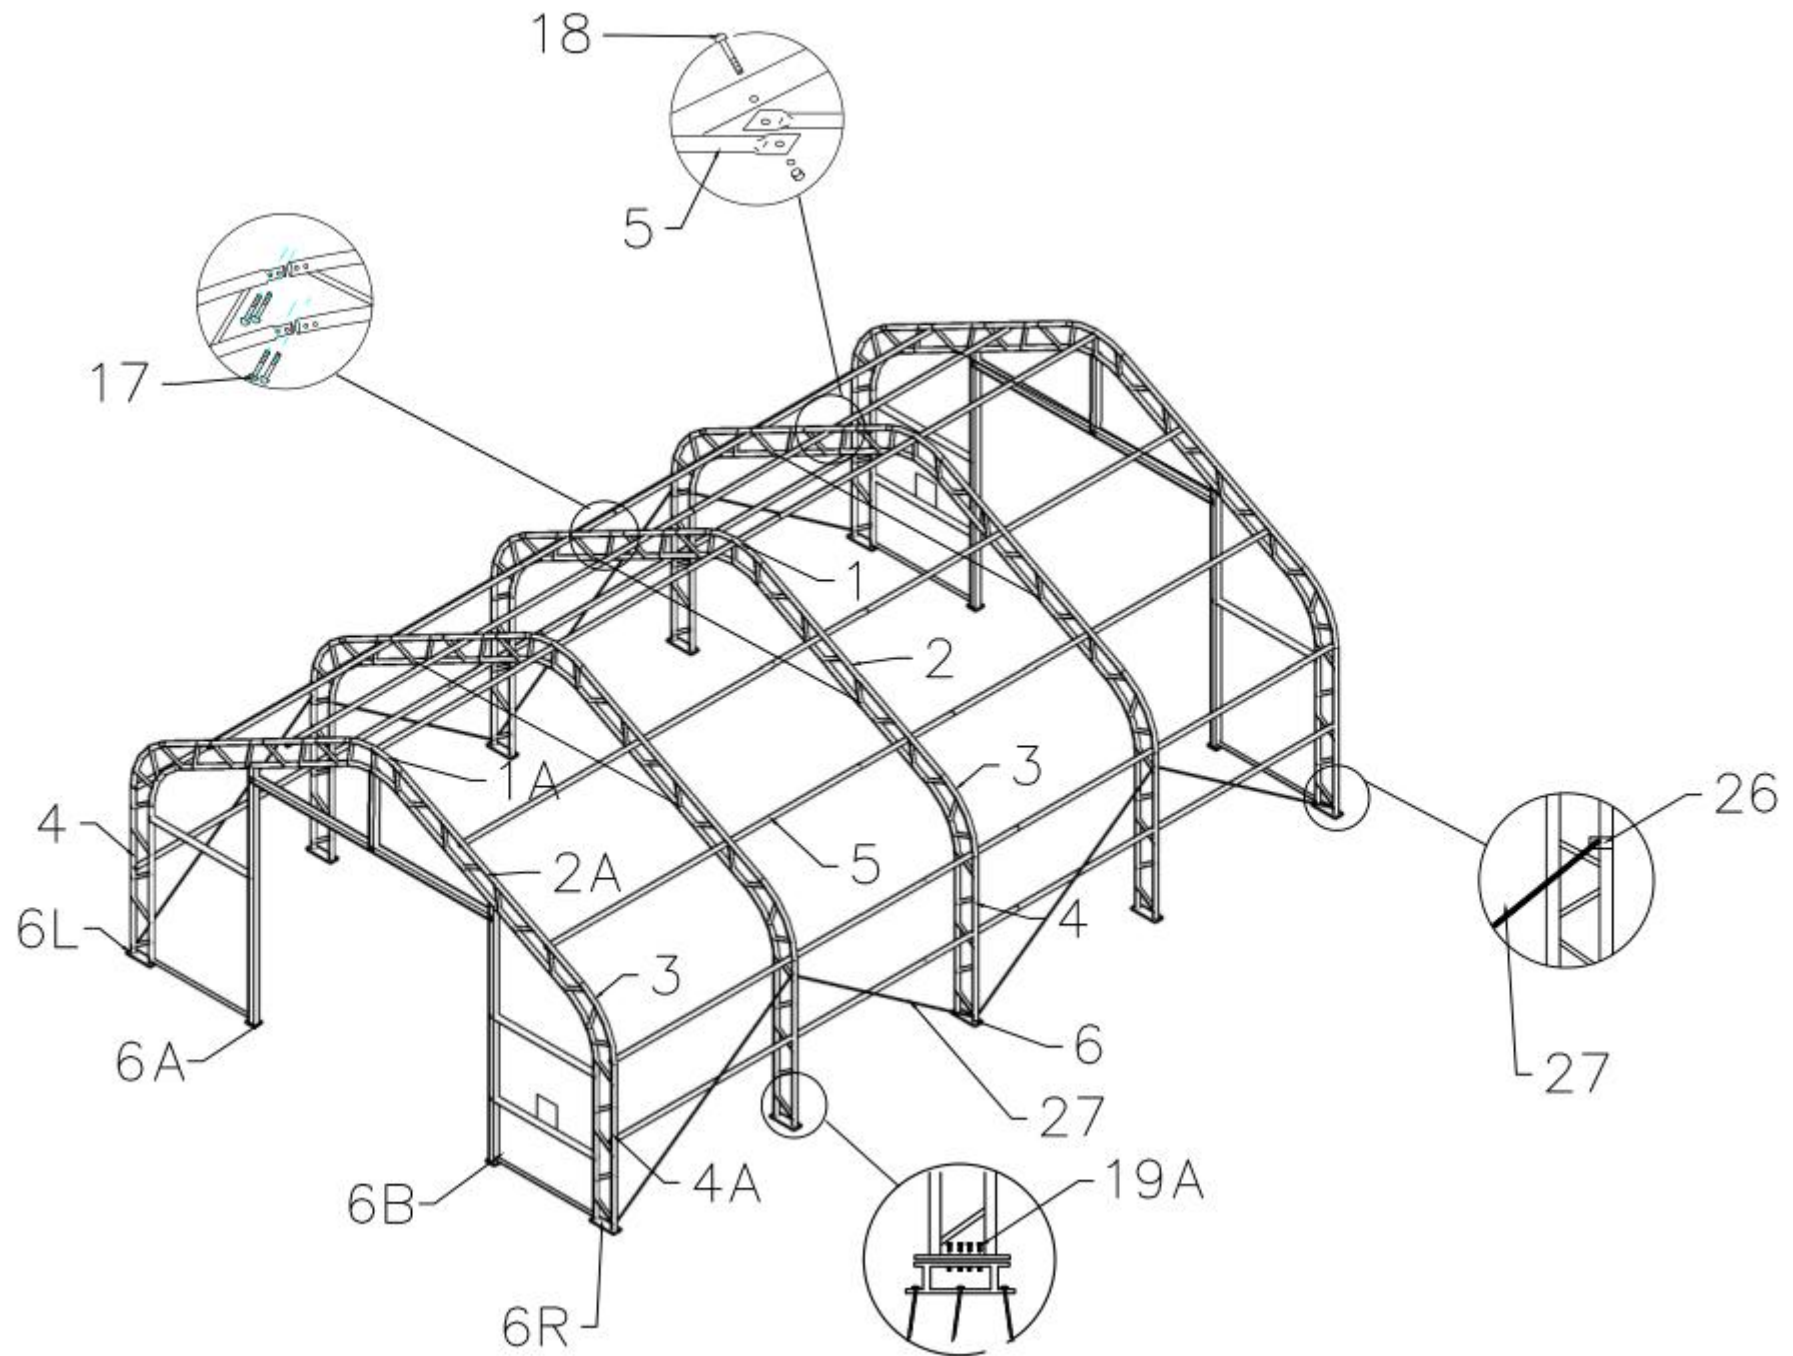
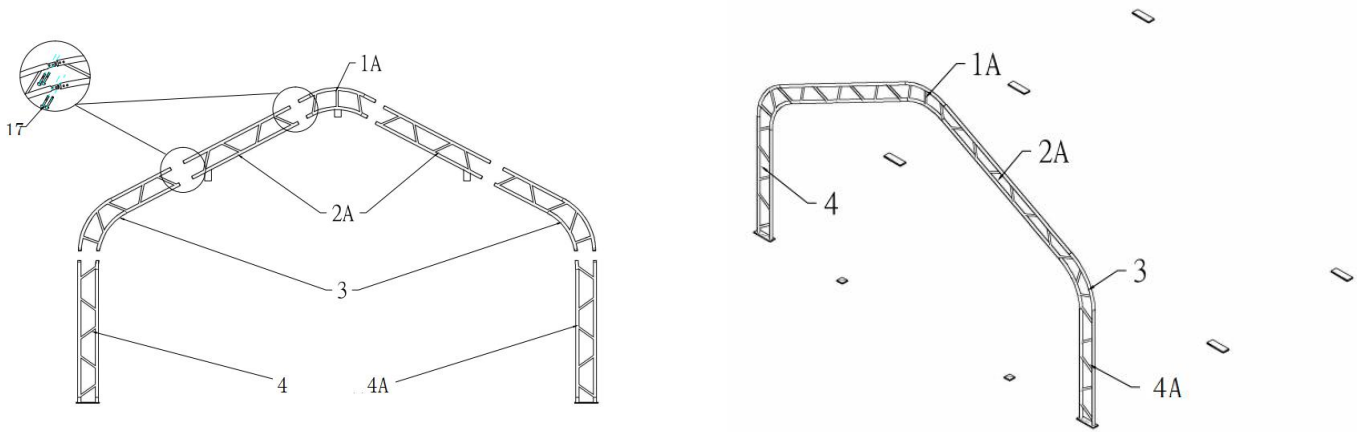
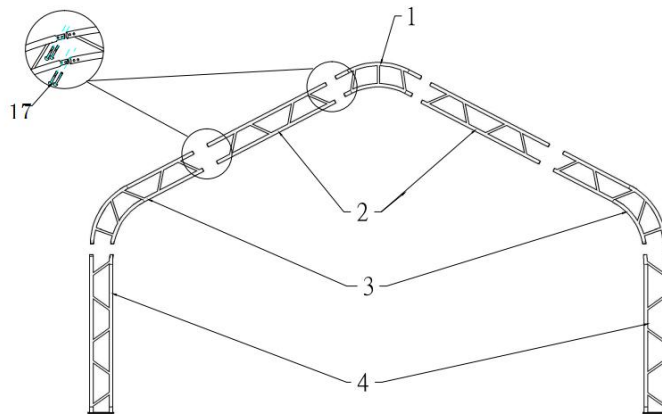

Figure 1: Frame Sketch
Figure 3
Figure 4
1. Figure 4 shows to connect the Roof bent tube for front and back door (No.1A), Sidewall bent tube for front and back door (No.2A), Shoulder bent tube (No.3), Standing leg (No.4) and Standing leg for front door and back door (No.4A) with Carriage bolt M8\*60 (No.17), then put the arch into tube of the Base plate by using the bolt 12\*30 (No.19A) by hoist (see Figure 3)
2. Figure 4 shows to connect the Roof bent tube (No.1), Sidewall bent tube (No.2), Shoulder bent tube (No.3), and Standing leg (No.4) with Carriage bolt M8\*60 (No.17), then put the arch into tube of the Base plate by using the bolt 12\*30 (No.19A) by hoist, and assemble every group arch by turns (see Figure 1)